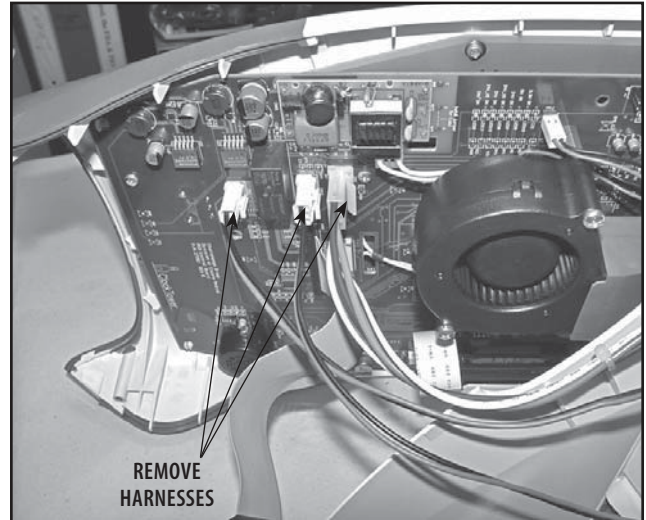

FIGURE 6.21
6. Lay System Top on the edge and disconnect the remaining harnesses from the Control Board. **See Figure 6.21.**